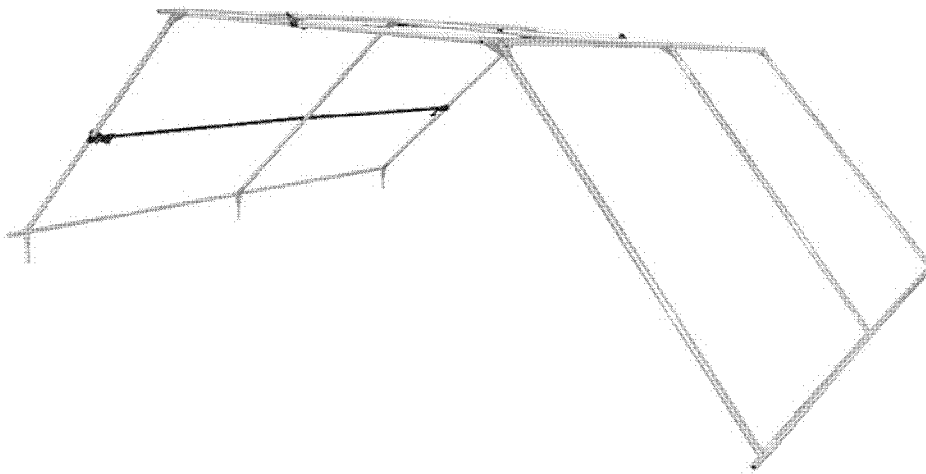

Fig 13 Raise the roof assembly by fitting the two wall members
- 14.4 Raise the roof assembly by fitting the two wall members with the adaptors attached on one side - then repeat on the other side. Fig 13.